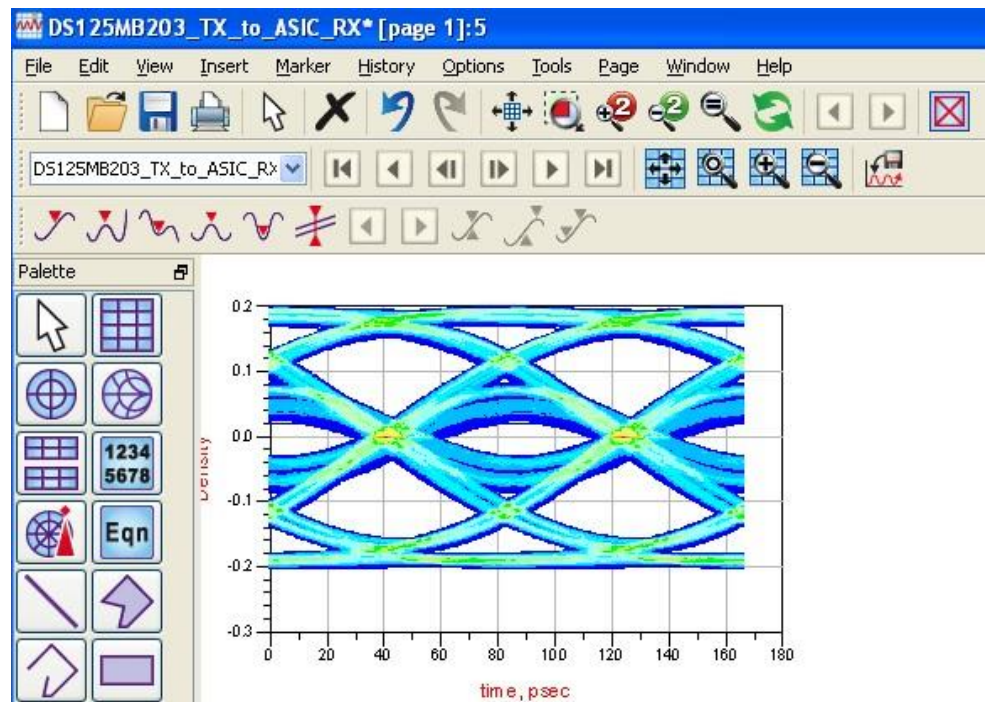

Figure 6: Example eye plot for DS125MB203 TX to ASIC RX input
12. Once the simulation completes, plot the eye (a.k.a. Density). Figure 6 shows an example eye plot at the output of the channel. The quality of the eye generated in this second simulation will be affected by: